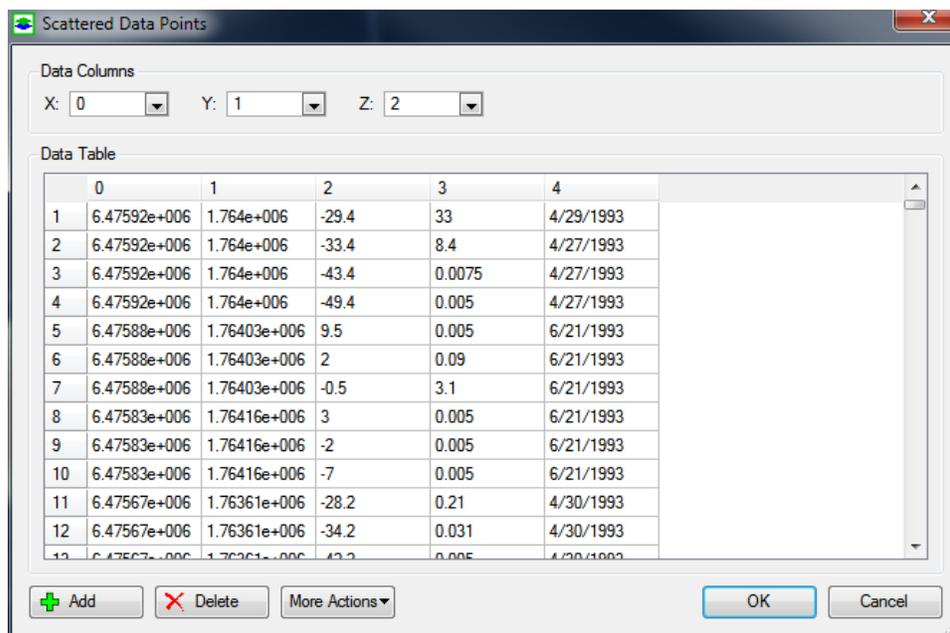

Figure 2.19. The Scattered Data Points dialog box for Point Maps
2. Select *Create New Object* from the popup menu to display the *Scattered Data Points* dialog box (Figure 2.19), the options of the dialog box are:
- *Edit Data:* Click the  button to open the *Scattered Data Points* dialog box (Figure 2.19) where you can make changes to the data points.
- *Column*: This dropdown box contains the column names of the Data Table (Figure 2.19). Use this box to select a column that contains the desired labels for the data points.